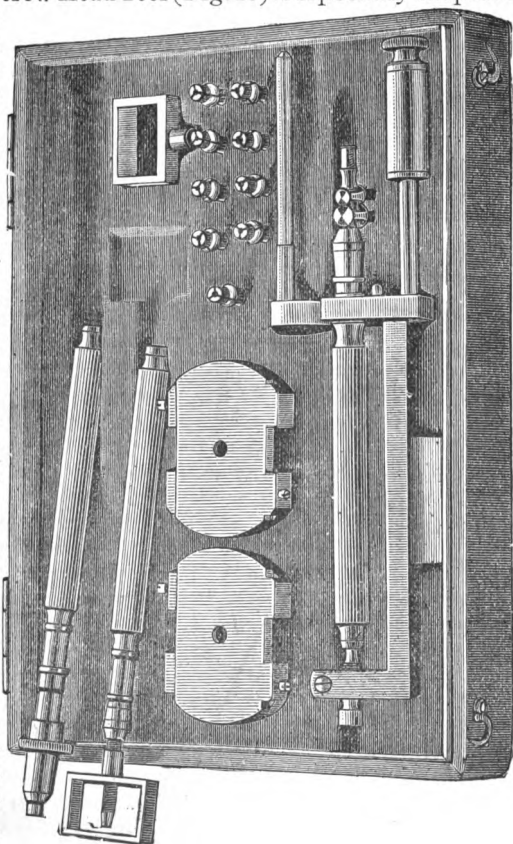

Fig. 18.
**Meek's Pattern Screw Head Tool** (Fig. 18) is especially adapted for English work. It has one arbor fitted with brass lanterns large enough for fusees, another with small steel lanterns for jewel screws, and a third with brass split chucks of various sizes which may be instantly opened or closed perfectly central by means of a large milled nut. The laps are of a good form.